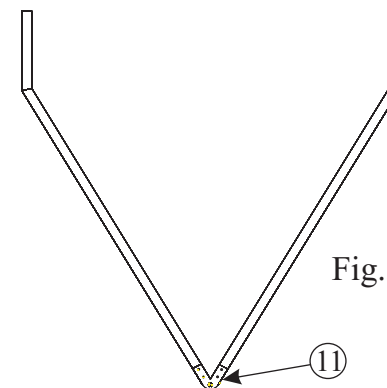

Fig. 3
**2** Next, assemble the base frame by laying out the left and right hand base frame parts and attaching the base frame plate (item 11) with 4 bolts (item 6) (Fig 3).